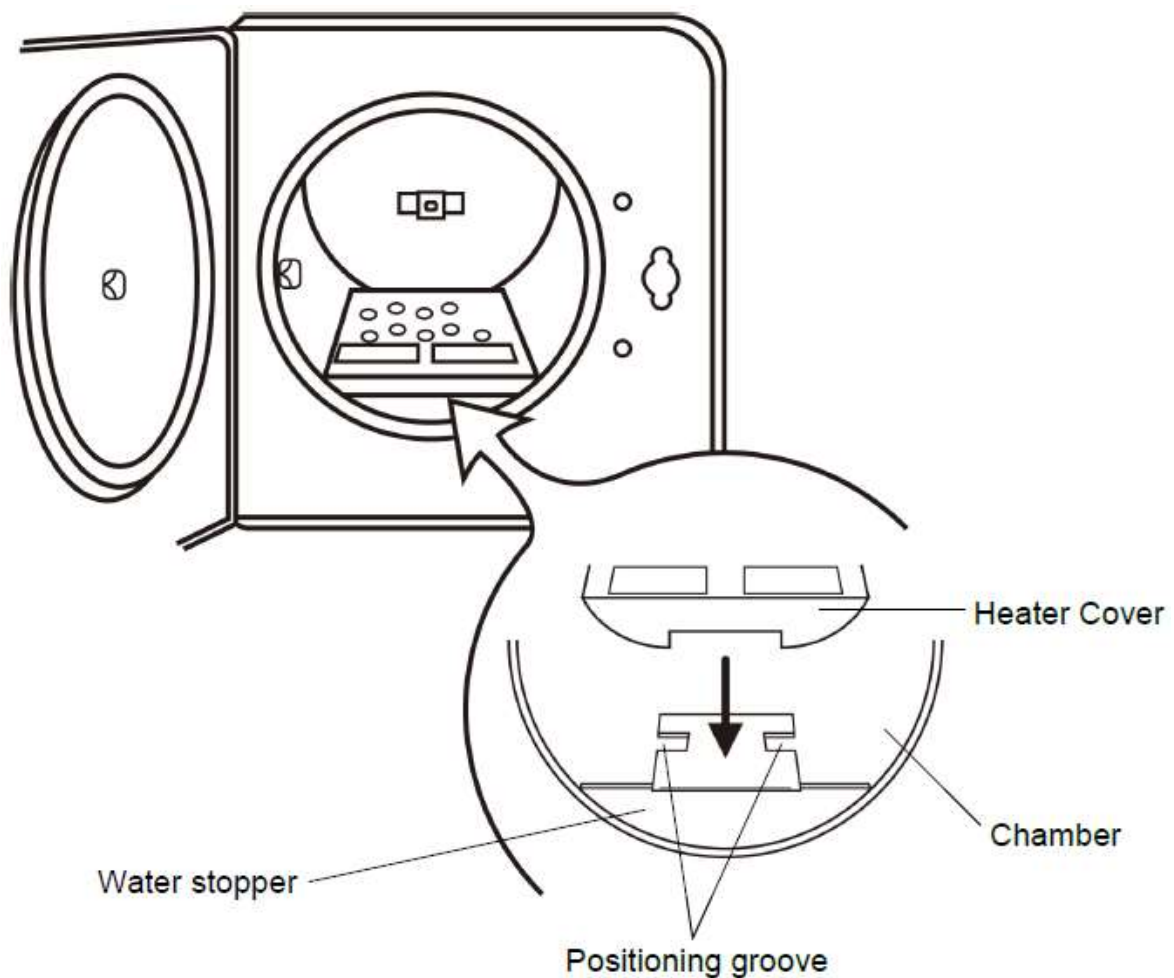

Figure 12
B. As shown in Figure 12 (standard accessories), install the Heater Cover onto the chamber and make sure the round edge faces the back, and that the vertical front edge of the chamber is firmly positioned in the corresponding slot in the lower part of the chamber.